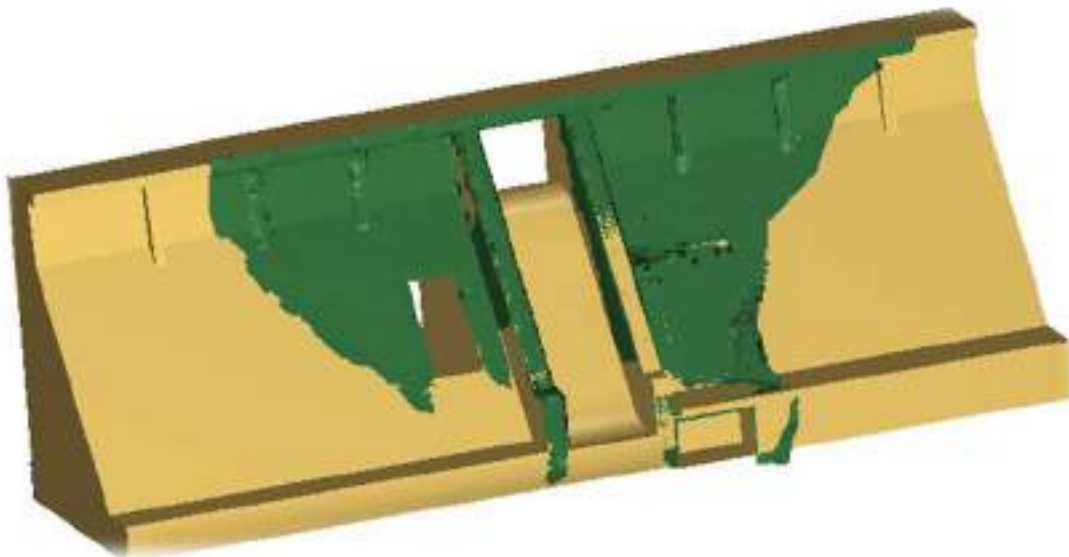

Figure 29: Cloud and mesh aligned with the best fit method
- Point 1 – Circle center: select the option “Middle / Center” and then click a point on the blue circle and another one on the corresponding circle on the CAD object (orange point in Figure 29).
- Point 2 – A point on the small triangular part: select the option “Point on selection” and click one point on the cloud and one on the CAD on this little plane (dark blue point in Figure 29).
- Point 3 – A point on the side: keep the option “Point on selection” enabled and click one point on the cloud and one on the CAD (green point in Figure 29).
- Point 4 – A point on the top plane: keep the option “Point on selection” enabled and click one point on the cloud and one on the CAD (light blue point in Figure 29).